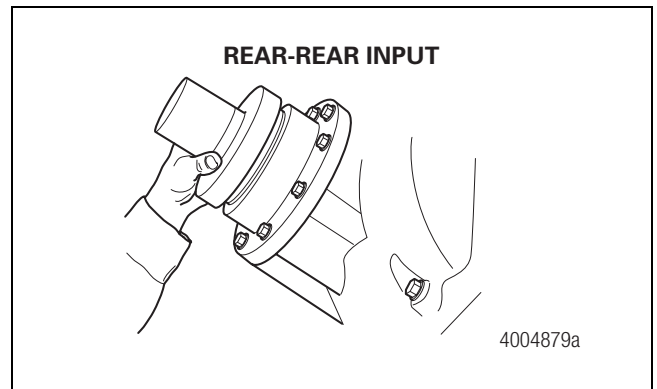

Figure 11
8. Install the rear-rear axle input seal. Hold the seal only on the outer diameter. Position the seal into the seal driver and align it with the rear-rear axle input bearing cage. Use a dead-blow hammer and the appropriate driver to install the seal into the bearing cage. Figure 11.